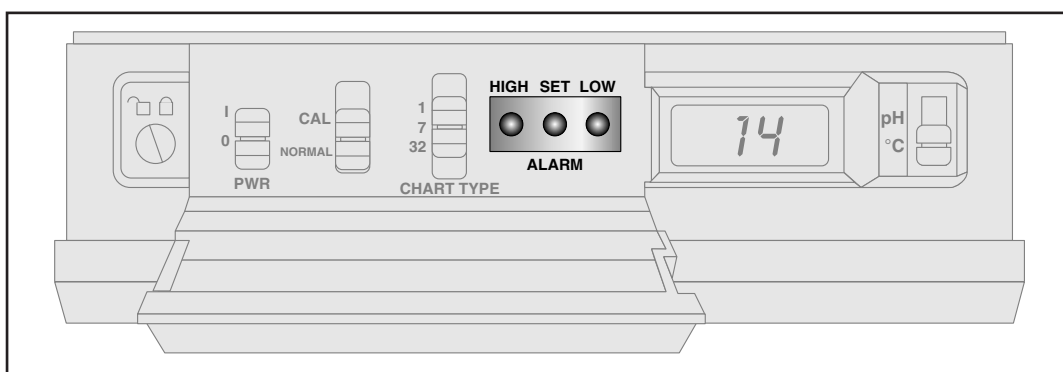

Figure 4-5. Alarm Display Buttons (HIGH/SET/LOW)
3. Press the "SET" button to activate the display to set either the high OR low alarm limit. At this time, "SE" is displayed. Figure 4-5 shows the location of the Alarm Display Buttons.
3. Press and hold down the "SET" button while turning on the power switch. This button is one of three Alarm buttons shown in Figure 4-5.